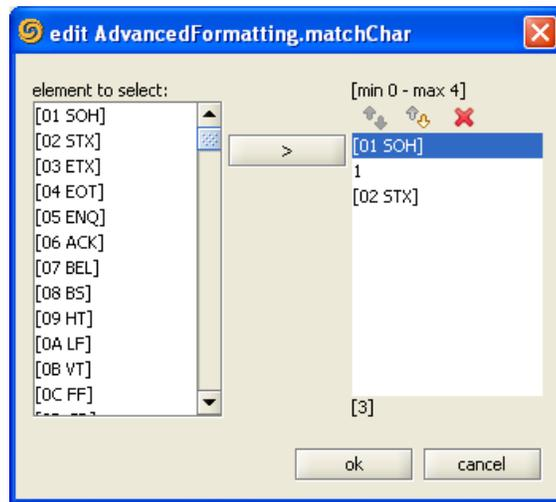

Figure 2. edit Advanced Formatting
- d. “Match with Characters” to “[01 SOH] 1 [02 STX]” by using the edit Advanced Formatting dialog (refer to Figure 2)